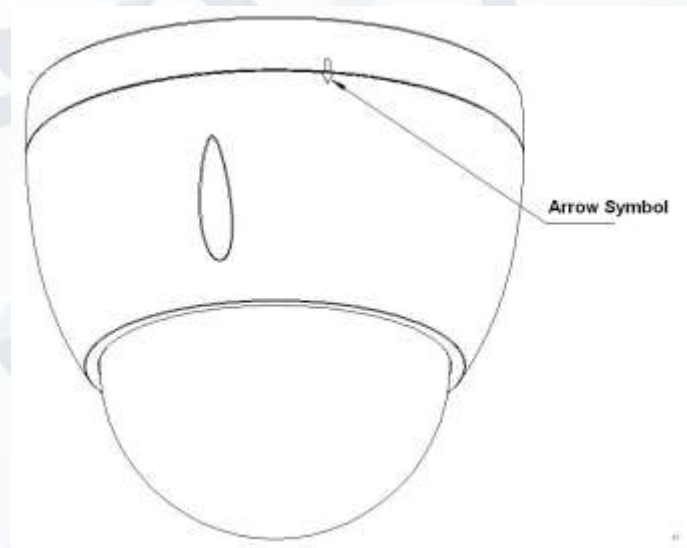

Figure 3-3
4. In Figure 3-3, line up the arrow symbol on the IP PTZ external enclosure to the bar symbol of the pedestal. Use three screws (provided) to secure the external enclosure onto the pedestal and fix firmly.